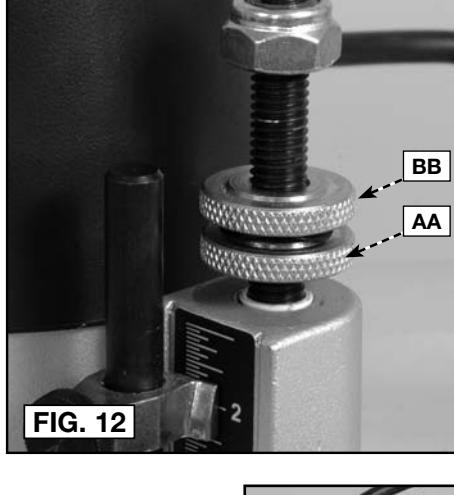

FIG. 12
6. Turn the lower travel-limiting nut (AA) Fig. 12 until it is approximately 1/4" (6.4 mm) above the top of the the plunge housing. While holding the lower nut, turn the upper nut (BB) until it "jams" against the lower nut (AA) Fig. 12.